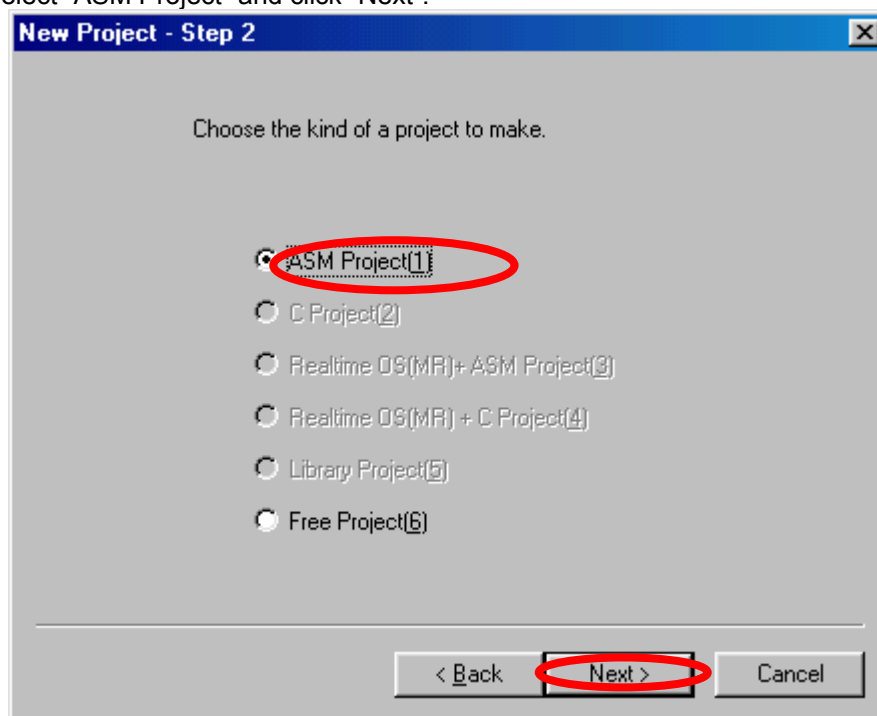

Figure 4-4 Screen of New Project Step 2
- 6) Select a project kind on Figure 4-4. The sample program is created by the assembler. Select "ASM Project" and click "Next".